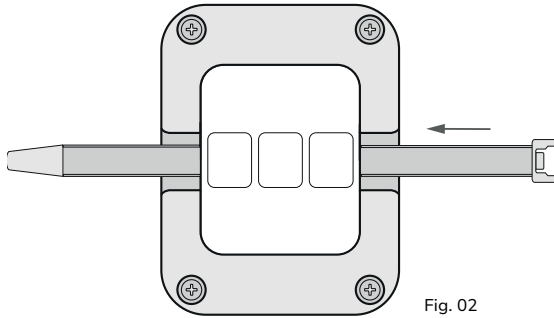

Fig. 02
2. Pass the UV-resistant Hellermann strap (included with the product) through the channel on the front part of the sensor (Fig. 02).